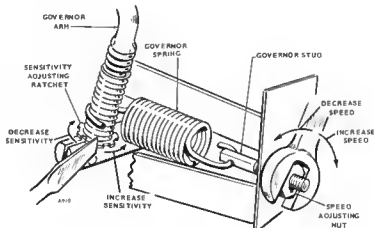

FIGURE 3-59 GOVERNOR ADJUSTMENT
**Speed Adjustment:** To change the governor speed, change the spring tension by turning the governor speed nut (Figure 3-59). Turn the nut clockwise (more spring tension) to increase governed speed and counterclockwise to reduce governed speed. Hold a tachometer against flywheel cap screw or use frequency meter.
**Sensitivity Adjustment:** To adjust governor sensitivity (no-load to full-load speed drop), turn the sensitivity adjusting ratchet (Figure 3-59). Counterclockwise gives more sensitivity (less speed drop when full load is applied), clockwise gives less sensitivity (more speed drop). If the governor is too sensitive, a rapid hunting condition occurs (alternate increasing and decreasing speed). Adjust for maximum sensitivity without hunting. After sensitivity adjustment, the speed will require readjustment. After adjusting the governor, secure lock nut.